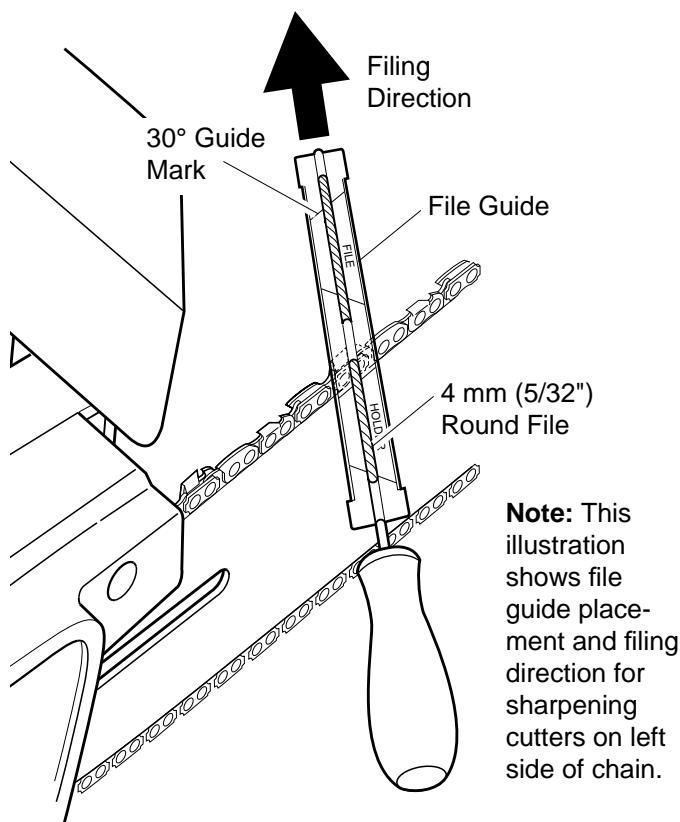

Figure 20 - File and File Guide Placement On Chain
3. Press four millimeter (5/32") round file (attached to file guide) into groove between top plate and depth gauge on chain. File guide should rest on both top plate and depth gauge (see Figures 20 and 21). **Note:** File at midpoint of guide bar.
4. Hold file guide level. Make sure 30° mark on file guide is parallel to center of guide bar (see Figure 20). This will insure that you file cutters at 30° angle.
5. File from inside towards outside of cutter until sharp. Only file in this one direction (see Figure 20). **Note:** Two or three strokes with file should sharpen cutter.